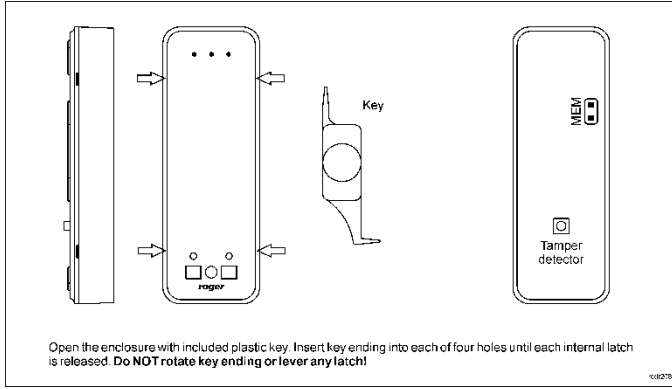

Fig. 2 Enclosure opening and location of service contact.
Note: Remote configuration of device from VISO v2 software is possible only if jumper is placed on MEM contacts (fig. 2). If the jumper is removed, then such configuration is blocked. In case of factory new device, jumper is placed on MEM contacts.
In RACS 5 v2 system the reader can be installed at site without previous configuration. According to AN006 application note, its address and other settings can be configured from VISO v2 management software and during such configuration the access to its service contacts (fig. 2) is not required.
2. Remove jumper from MEM contacts (fig. 2) if it is placed there.
2. Place jumper on MEM contacts (fig. 2).